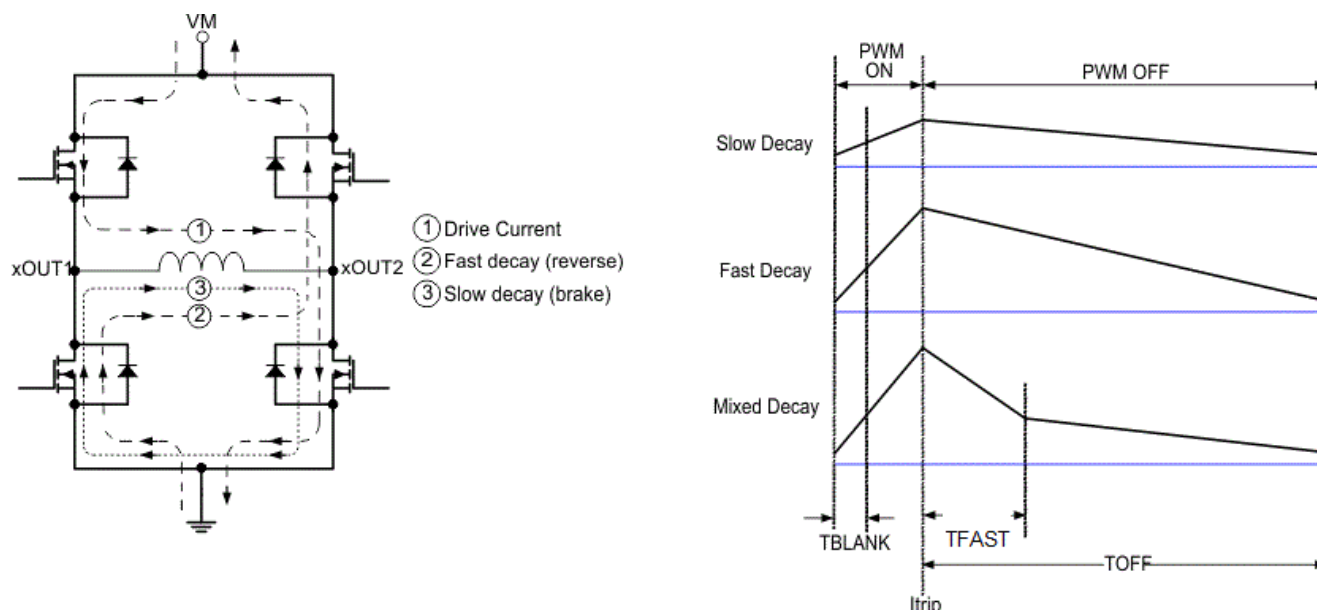

Figure 7-6. Decay Modes
During PWM current chopping, the H-bridge is enabled to drive through the motor winding until the PWM current chopping threshold is reached. This is shown in Figure 7-6, Item 1.
Once the chopping current threshold is reached, the H-bridge can operate in two different states, fast decay or slow decay. In fast decay mode, once the PWM chopping current level has been reached, the H-bridge reverses state to allow winding current to flow in a reverse direction. The opposite FETs are turned on; as the winding current approaches zero, the bridge is disabled to prevent any reverse current flow. Fast decay mode is shown in Figure 7-6, item 2. In slow decay mode, winding current is re-circulated by enabling both of the low-side FETs in the bridge. This is shown in Figure 7-6, Item 3.